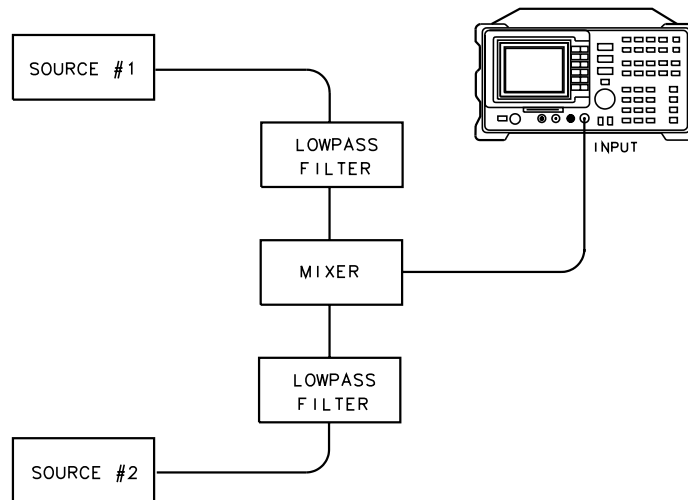

Figure 47 Third-Order Intermodulation Equipment Setup
- 1 Connect the equipment as shown in Figure 47.